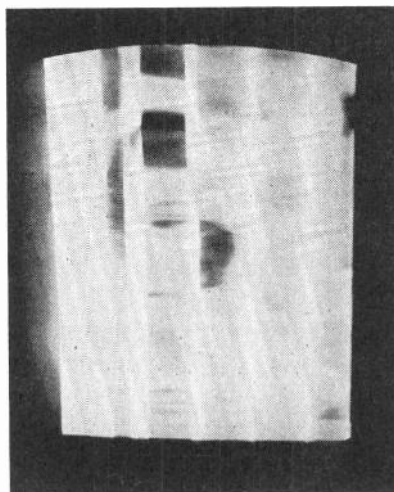

Fig. 8-P. *Pix pullout caused by open coupling capacitor.*
**SERVICE:** Generally caused by defect in horizontal or sync circuits. Check by substitution all tubes in both stages; also coupling capacitors between video amplifier and sync separator, and between the noise-gate tube and sync-separator tube, and sync to afc or oscillator. See Fig. 8-P.